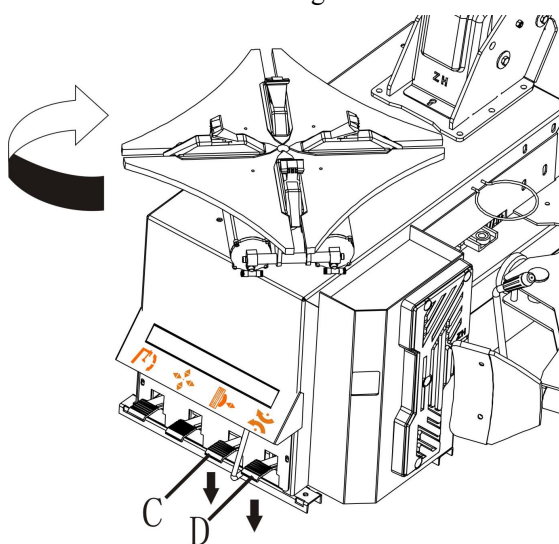

Fig. 13
- Operation test: after power connected, press pedal D (Fig.13), turntable will turn clockwise. This test is very important.